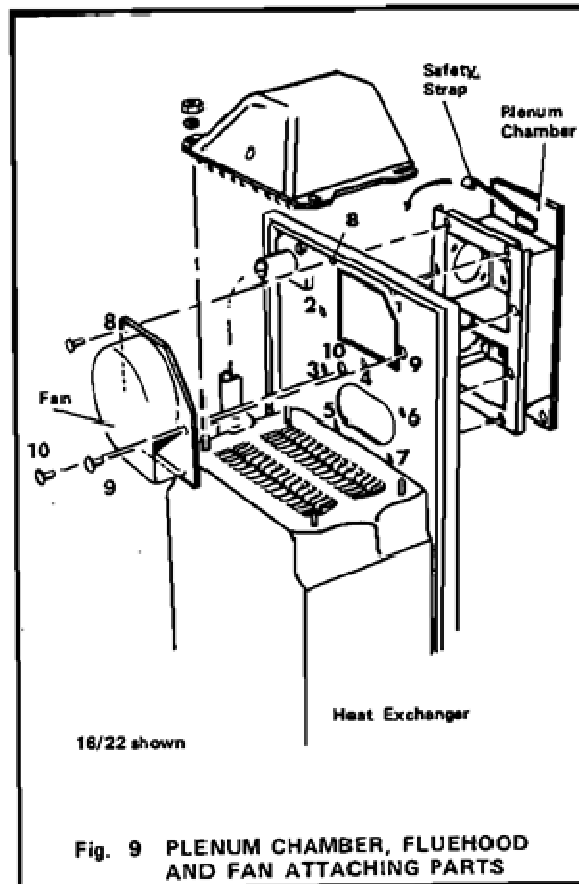

Fig. 9 PLENUM CHAMBER, FLUEHOOD AND FAN ATTACHING PARTS
- F. Unscrew and remove the nuts securing the flue-hood, then lift off the fluehood, see Fig. 9. Discard the paper gasket.
- G. Disconnect the three electrical leads from the fan, then unscrew and remove the screws securing the fan. Lift off the fan, see Fig. 9.
- H. Unscrew and remove the screws securing the plenum chamber, see Fig. 9.
The boiler is designed so that all pipes can be hidden within its own width except where they leave the boiler at top and/or bottom. Because the water connections are behind the boiler backplate, short lengths of pipe will have to be connected to some of the tappings to be used before fixing the boiler to the plenum box, and terminated in unions in a position suitable for connecting to the system pipework; it is recommended that copper capillary connections are used. Although it is possible to install the boiler and its pipework with only access from the front, it is very much easier with access from at least one side. This access is not necessary for maintenance which can be carried out from the front only. Pipe runs must be kept clear of the areas where the plenum chamber is to be fitted and where the air inlet and flue ducts will be located if a side outlet is being used. Connections which can be used and suggested methods of running pipework behind the boiler are shown in Fig.9. Any pipe tails running downwards from behind the boiler should not protrude below the bottom of the metal feet. Refer to Figs. 18 to 25 for diagrams of typical systems to which the boiler can be connected.
### 5. FITTING THE BOILER ON THE WALL – See Fig.9
The strap must first be positioned by hooking it in the slot in the plenum chamber (See Fig.9). It can then be hinged upwards against the wall until the boiler has been fitted when it can be hinged downwards, so holding the backplate against the plenum chamber.
- A. Stand the boiler on the floor in a vertical position using the two metal feet and polystyrene control cover protector, then using the cast iron flow pipe and the underside of the heat exchanger, lift the boiler into position on the wall, locating its mounting bracket on the bearing plate in the mounting channel. Support the boiler in this position using the safety strap if necessary, then secure the boiler backplate to the plenum chamber with the screws numbered 1 to 7 on Fig. 9. **NOTE:** Screw No. 4 not used on 6/10 & 10/16 boilers. Three screw holes in the boiler backplate are marked with a ring and these are for use when fitting the fan and must not be used in this operation.
- B. Fit the fan in position and secure it to the boiler backplate with the three screws, numbered 8 to 10 on Fig. 9. Connect the two mains electrical leads to their connections on the boiler backplate and the earth lead to the earth screw also on the backplate.